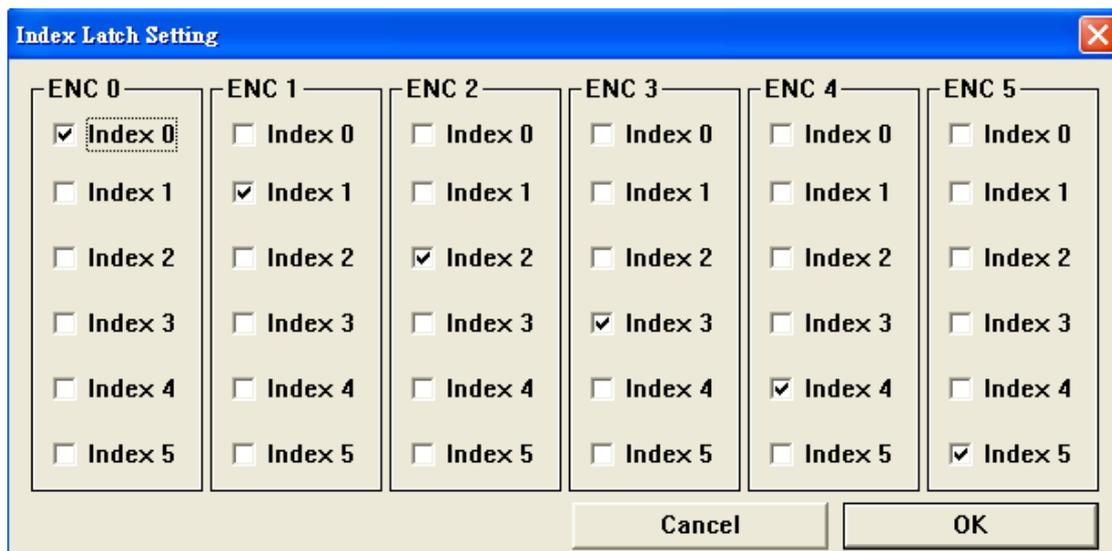

Figure 4-4.2
(2) Set index latch (as shown in Figure 4-4.2)